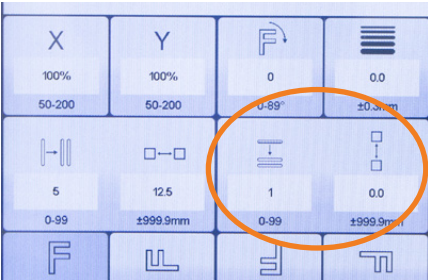

Figure 85
- To repeat the design vertically, use the third and fourth icon on the second row of the Design Settings menu. The third icon is used to select the amount of designs you wish to repeat, and the fourth icon is used to select the space in between each design. **See Figure 85.**